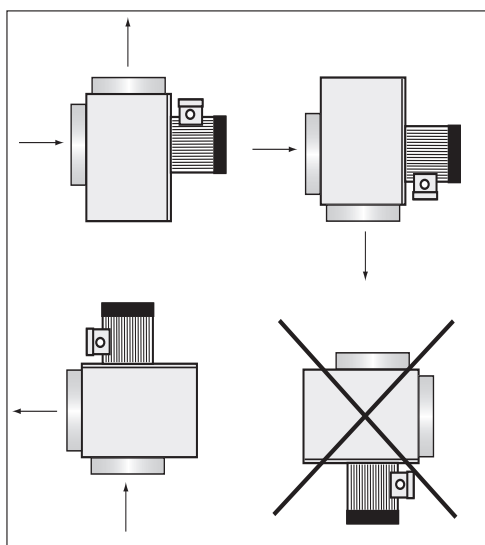

Fig. 3
- The power venter can be installed in many different positions. However, it should always be possible to open the access door at least 80 degrees, and the door latches should always be accessible. Acceptable power venter positions are shown below in Fig. 3. Note that the power venter motor can never point straight down as this could cause condensation build-up around the shaft, which can shorten the product life.